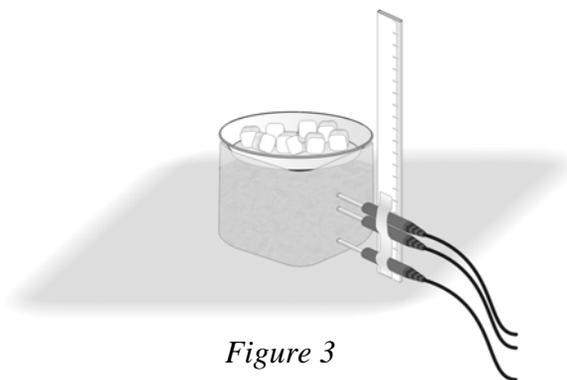

Figure 3
7. When everything is ready, place the bowl of ice on the surface of the soil as shown in Figure 3, and start data collection (). Immediately record the time displayed on your watch.